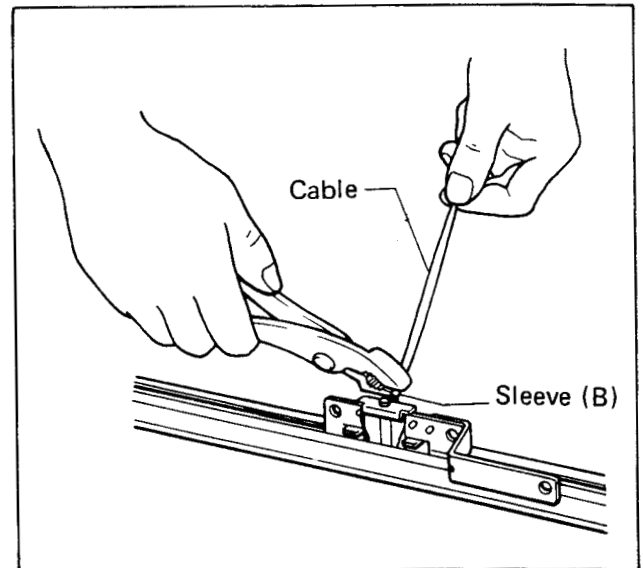

Fig. 11
12. After again making sure the movement of the closing plates is smooth, move sleeve (B) up to the closing plate. With pliers, crimp the sleeve and cut off the excess cable. (Fig. 11)